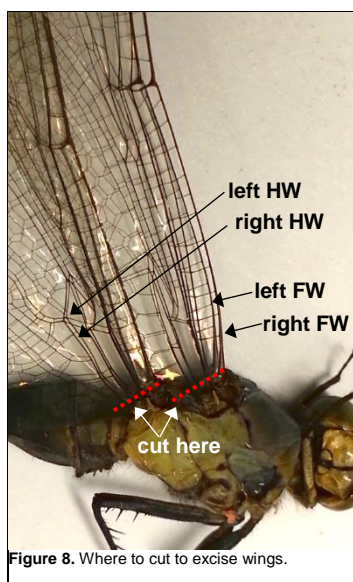

Figure 8. Where to cut to excise wings.
2. Check the condition of the dragon/damselfly's right wings. If they are mostly intact (not tattered or broken), use the dissecting scissors to carefully make a cut at the base of the right fore- and hindwings (Fig. 8) to remove them from the body. (Note: for small specimens (especially damselflies) it's often easier to do this under a dissecting microscope.) You now have a free forewing (FW), hindwing (HW), and the intact rest of the body ("full body", hereafter; Fig. 9). Note: if the right wings are in poor condition and the left wings are intact, use the left wings instead, but remember to update the annotations in BisQue, accordingly (see step 4b of "Upload images to BisQue").